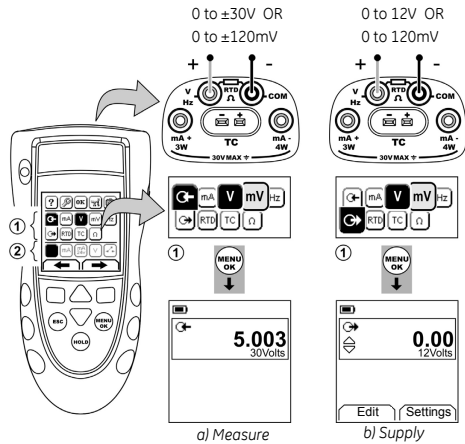

Figure 4: Example configuration - To measure/supply Volts or mV (Area 1)
- 1. Connect the instrument (Figure 4/5) and, if necessary, adjust the *Set Up* (Table 1).